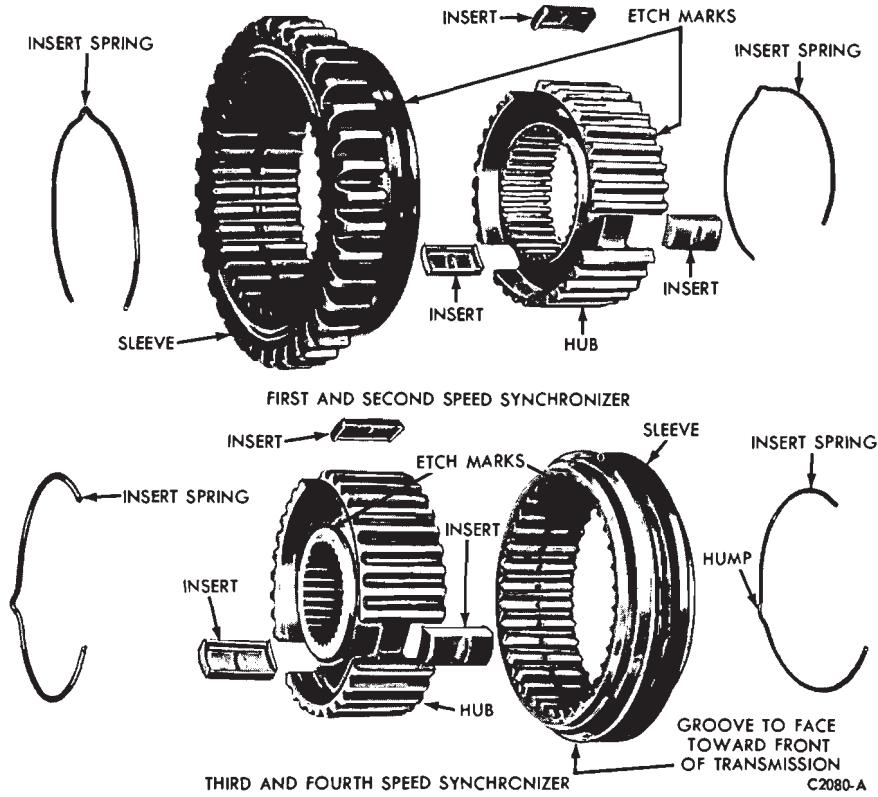

FIG. 17—Synchronizers Disassembled
- Push the synchronizer hub from each synchronizer sleeve (Fig. 17).